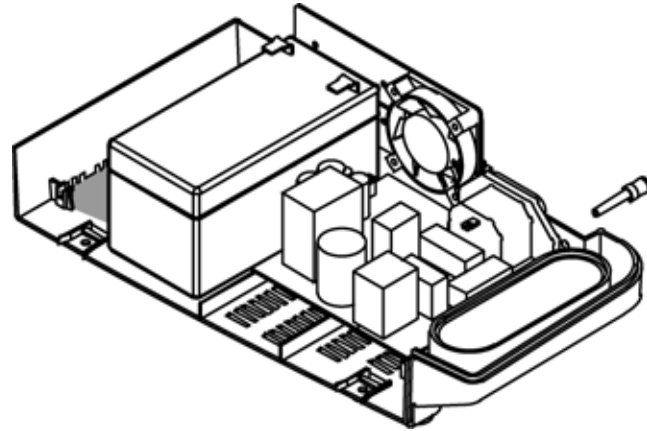

Figure 39: Equipotential Ground Terminal Removed
5. Remove the equipotential ground terminal from the bottom case. See Figure 39.